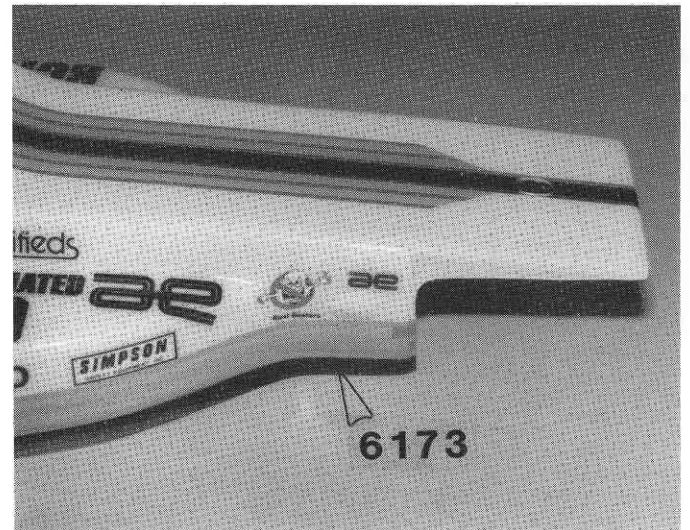

Fig. 159
□ **Fig. 159** The #6173 Protech II clear Lexan body can be painted before you mount it. However, it will be easier for you to mount it while it is still clear because it will be easier to locate the holes for the body mounts and wing tubes. This photo shows the trim lines for the front of the body and the front body mount hole.